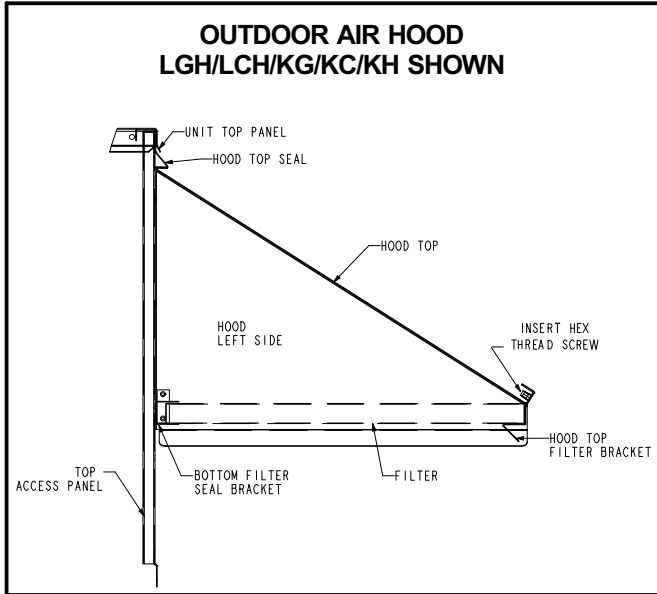

FIGURE 7
Slide hood top seal under unit cabinet top and secure using three of the existing cabinet top panel screws. Install, but do not tighten, the screws on each end of the hood. See figure 7.
- 3- Position the hood top edge V-channel under the corresponding V-channel on hood top seal. Slide hood from right to left until it is properly positioned. See figure 7.
- 6- Align the two holes on the left hood side with the two holes in the bottom filter seal bracket. Secure using provided screws. See figure 7.
- 7- Secure bottom filter seal bracket to the right hood side as shown in figure 7.